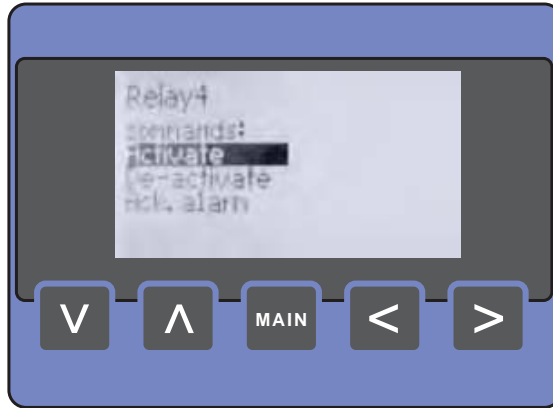

FIGURE 4-12
- On selection of an available function, the [command list] screen is presented (see FIGURE 4-12). You can navigate through the